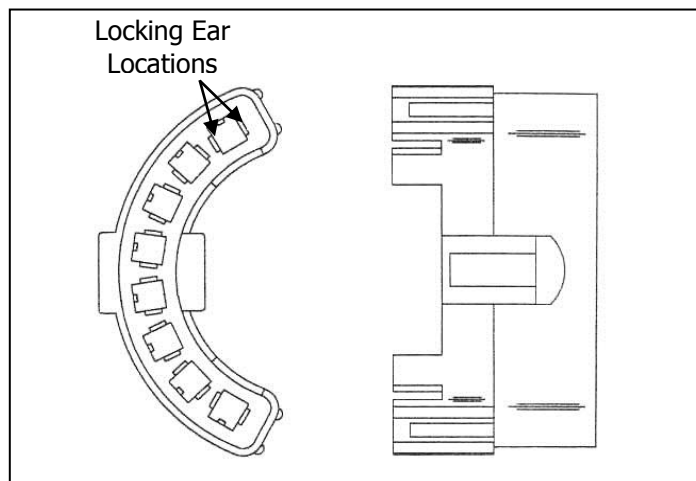

Figure 8.21 Turn Switch Connector Removal
- 8.5.4** You will need to remove and use the turn signal switch connector from the original harness on the new harness. With the face of the connector toward you locate the locking ear cutout on each side of the terminals (FIGURE 8.21). Using a small screwdriver or end of a paperclip push the locking ears in towards the sides of the terminal until the terminal is released and will pull out of the connector.